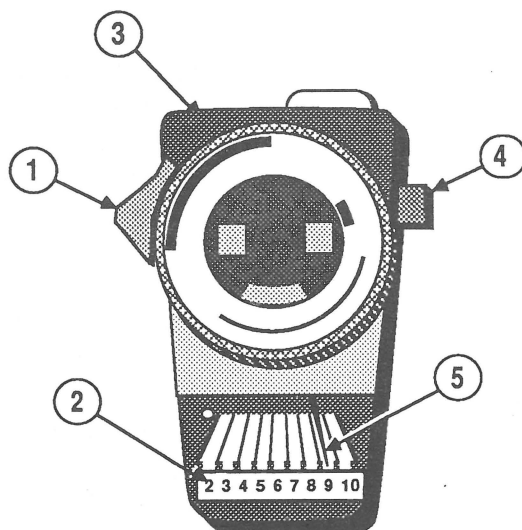

FIGURE 11
2. Next, move the side switch (Figure 11, #1) to its lower position so that the lower scale (Figure 11, #2) reads 2 through 10.
3. Then uncover the lens of the light meter (Figure 11, #3). Place the lens against the screen exactly over the brightest (8th) bar, and press the "read" button (Figure 11, #4). The reading should fall in the middle of the "9" scale (Figure 11, #5).